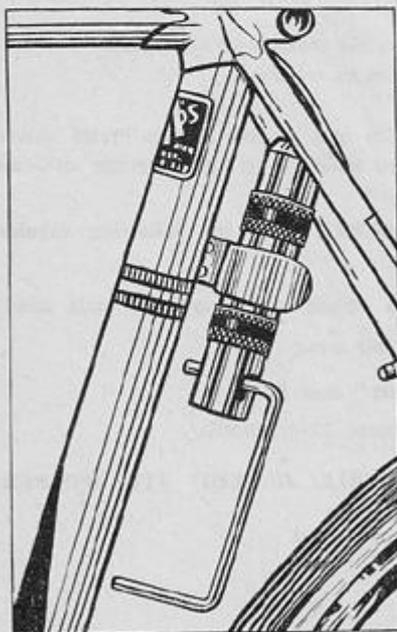

FIG. 1. PUMP HELD IN BRAZED CLIP, LOADED AND READY FOR USE.
- * The pump can be carried in the pocket or held in a quick release single clip which can be brazed to the cycle frame if required, (See Fig. 1).
The elusive clip can be seen in Figure 1. Some people without the braze-on option would attach the pump to their frame using a single Terry's pump clip, others carried them in a jersey pocket. Below is a picture of the pump/clip/bracket on Patricia's Carpenter plus a clearer image of the braze-on on my Pennine: